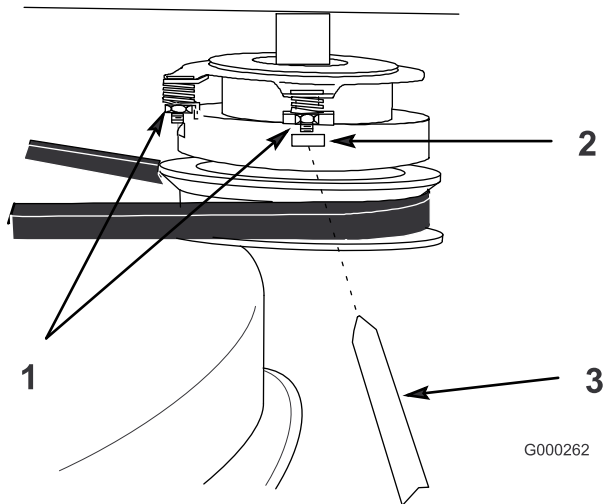

Figure 38
1. To adjust the clutch, tighten or loosen the lock nuts on the flange studs (Figure 38).
2. Check adjustment by inserting a feeler gauge through the slots next to the studs (Figure 38).